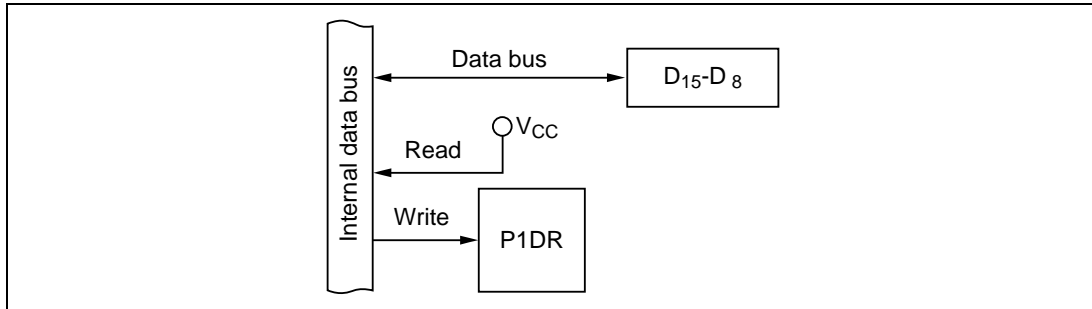

Figure 10-5 Data Bus: D₁₅ to D₈ (Modes 1 to 6)
(1) Data Bus (Modes 1 to 6): Figure 10-5 shows a block diagram illustrating the data-bus function. Table 10-3 indicates register read/write data. When port 1 operates as a data bus, the values in the port 1 data register (P1DR) have no effect on the bus lines. When read, P1DR returns all 1s.